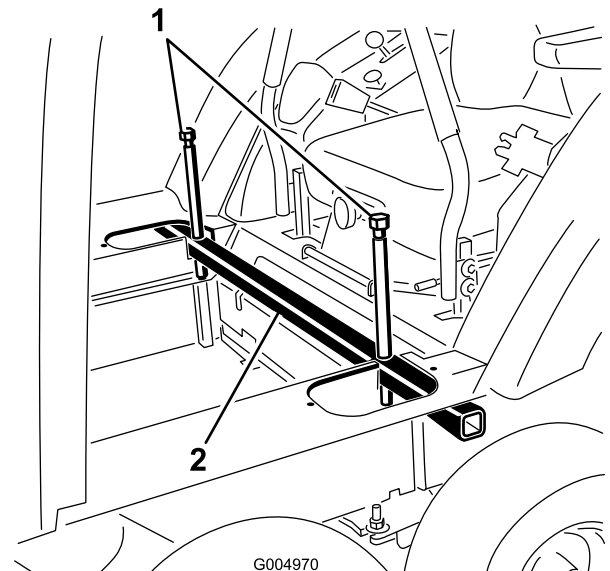

Figure 116
25. Lower the cab into position by slowly and evenly loosening the jacking bolts on each end of the jacking tube (Figure 116).